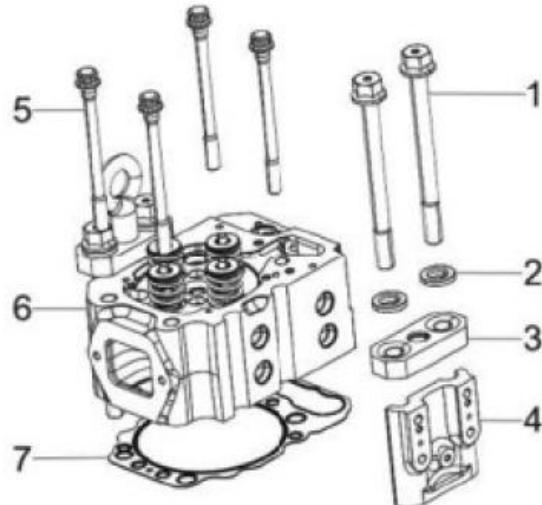

Figure 64. Cylinder Head Assembly
1. Carefully clean both the combustion surface of the cylinder head and the top surface of the cylinder block. Then place a new cylinder head gasket (Figure 64, Item 7) on the cylinder block.
2. Position the cylinder head (Figure 64, Item 6) on the cylinder head gasket.